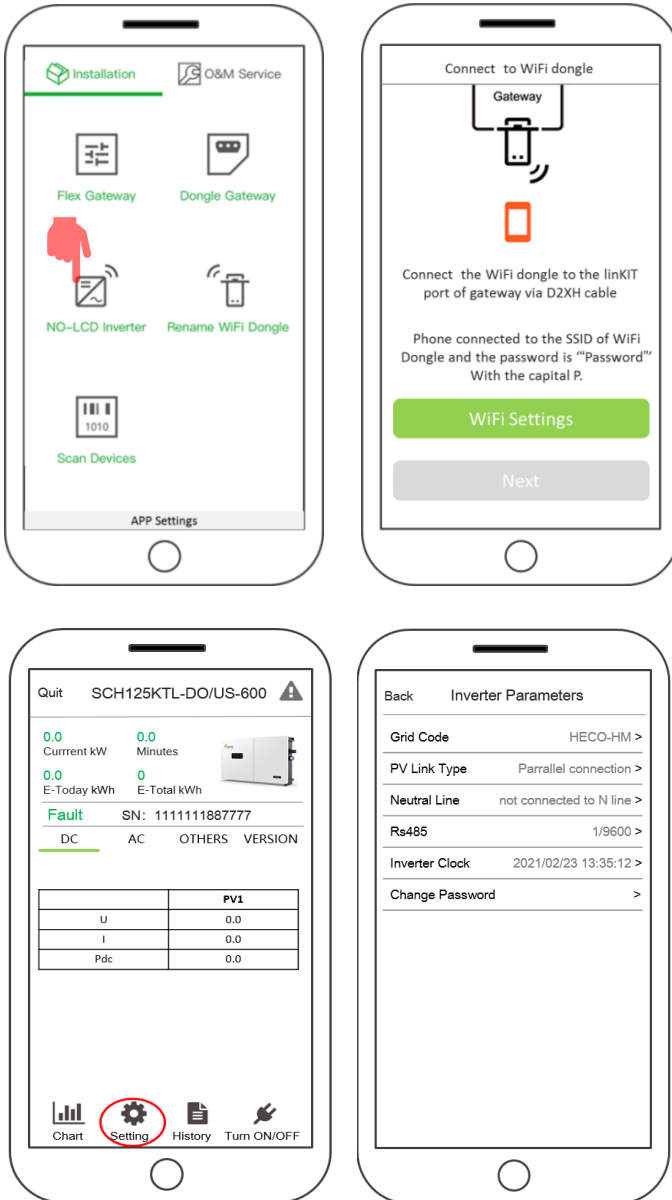

Figure 4-1 System setting
- 5.) Select the Inverter Parameters tab to set the Grid Code, PV Link Type, Neutral Line, RS485 and Inverter Clock” as shown in Figure 4-1.